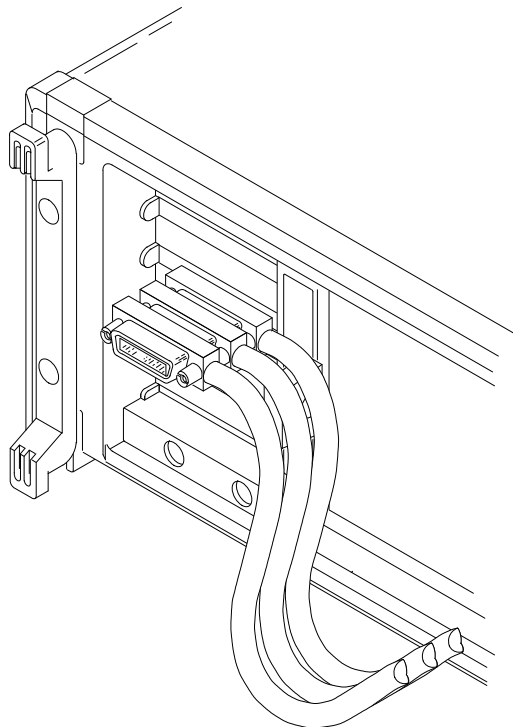

**Figure 3-40: Typical GPIB Network Configuration**
- Include only one cable path between devices on your network (see Figure 3-40). Do not create loop configurations.